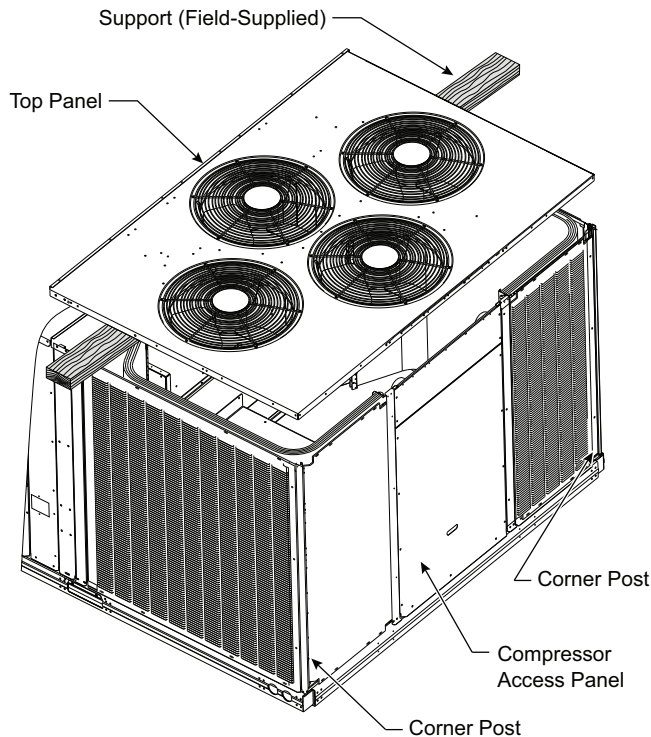

Fig. 19 — Top Panel Removal
3. Lift the top panel at the condenser fan end and support the top panel so it remains level while resting on the condenser fans as shown in Fig. 19.
4. Remove the compressor access panel to access the lower coil clips. The condenser coil corner post may also be removed. See Fig. 19.